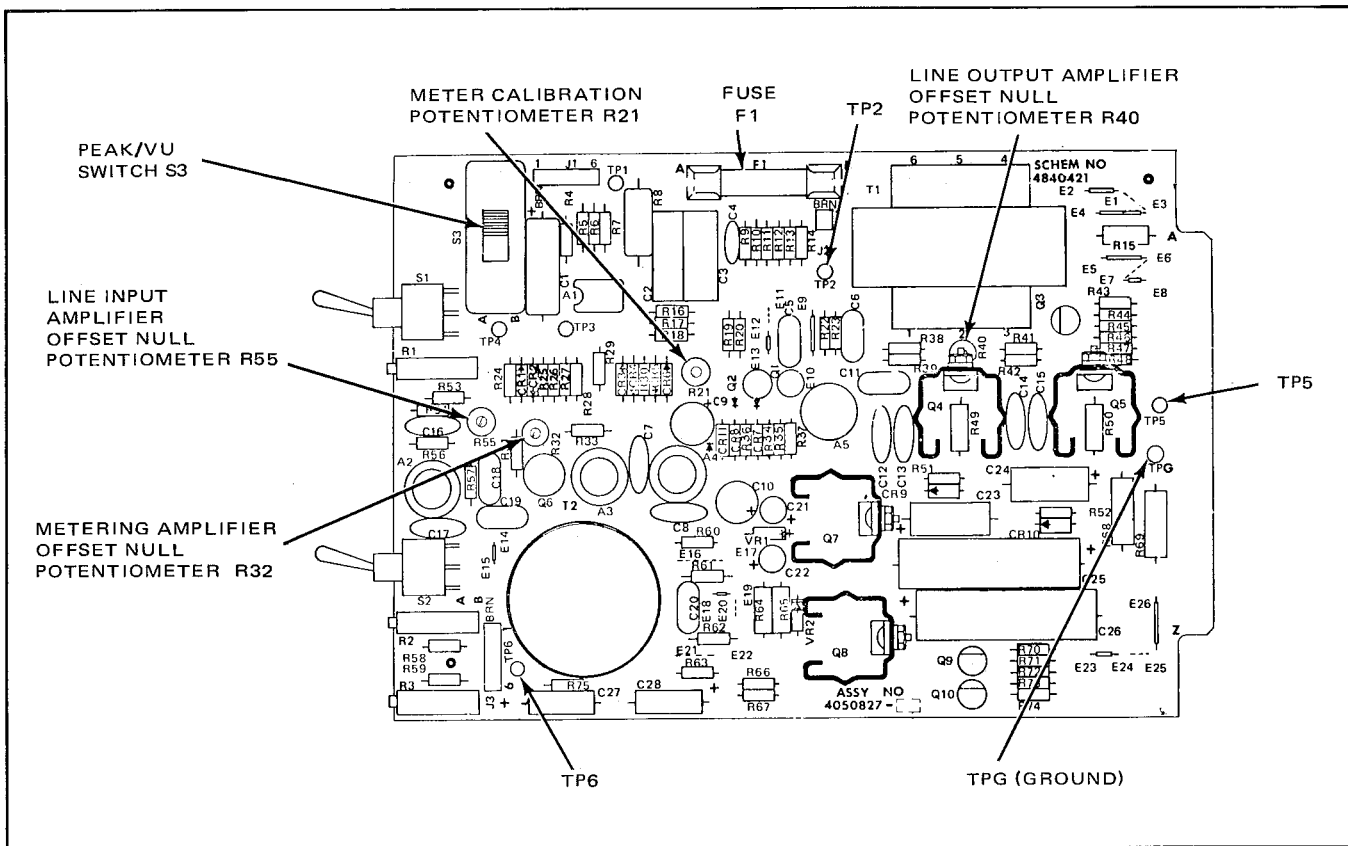

Figure 5-17. Input/Output Module Assembly
3. Remove fuse F1 (Figure 5-17).
6. Apply power and adjust metering amplifier offset null potentiometer R32 (Figure 5-17) for zero indication (same as step 1) on the level meter.
7. Connect a dc voltmeter to TP6 and ground (Figure 5-17).
10. Connect dc voltmeter to TP2 and ground (Figure 5-17).
11. Adjust line output amplifier offset null potentiometer R40 (Figure 5-17) for  $0 \pm 30$  mV at TP2. Remove dc voltmeter.
2. Connect ac voltmeter to TP6 and ground (Figure 5-17).
8. Remove power and set peak/vu meter switch S3 (Figure 5-17) to desired operating position, peak or vu. Reapply power.
10. Adjust meter calibration potentiometer R21 (Figure 5-17) for indication of -6 dB (meter switch S3 in peak position) or 0 vu (meter switch S3 in vu position).
2. Connect a jumper from TP5 to TP6 (Figure 5-17).
14. Remove power and set peak/vu meter switch S3 (Figure 5-17) to desired operation position, peak or vu. Reapply power.
15. Adjust meter calibration potentiometer R21 (Figure 5-17) for indication of -6 dB (meter switch S3 in peak position) or 0 vu (meter switch S3 in vu position).